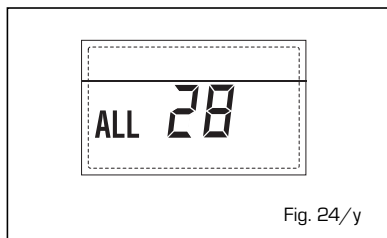

Fig. 24/y
- **NUMBER OF CONNECTED BOARDS ANOMALY "ALL 29" (fig. 24/z)**